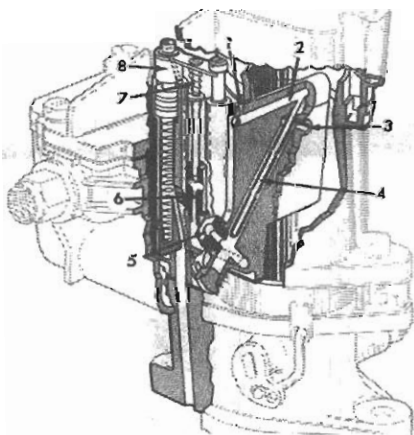

FIG. 4
High Speed System -- As the throttle is opened and the speed increases from about 20 mph (32.2 km), the high speed system (see Fig. 4) gradually comes in and the low speed system tends to fade out, until at about 30 mph (48.3 km.) the high speed system is carrying the entire load. During the operation of the high-speed system, the velocity of the air flowing down through the carburetor creates a pressure less than atmospheric (a partial vacuum) at the diffuser hole (3). The difference in pressure between the bowl and the carburetor throat causes the fuel to flow from the bowl through the main metering jet (5). Air coming through the balance tube and the vent (1) is admitted through the air passage (2) into the main vent tube (4). This air mixes with the fuel in the space surrounding the tube so that a mixture of fuel and air is carried out of the diffuser hole (3). As the vacuum drops due to increased throttle opening, the vacuum can no longer hold the step-up piston (8) and the step-up rod (7). Spring pressure then raises the piston and opens the step-up jet (6). Thus allowing fuel to flow through the step-up jet in addition to that already flowing through the main metering jet.